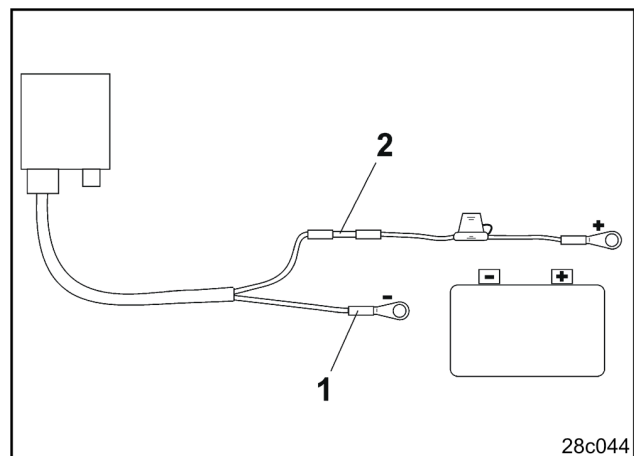

Fig. 6
- Insert the blue cable (earth cable) into the loose ring tongue (Fig. 6/1).
- Insert the brown cable (+ 12 Volt) into the free butt joint (Fig. 6/2) on the fuse holder.
- Shrink the casing over the butt joint (Fig. 6/2) by using a heat source (lighter or hair dryer) until the adhesive escapes.